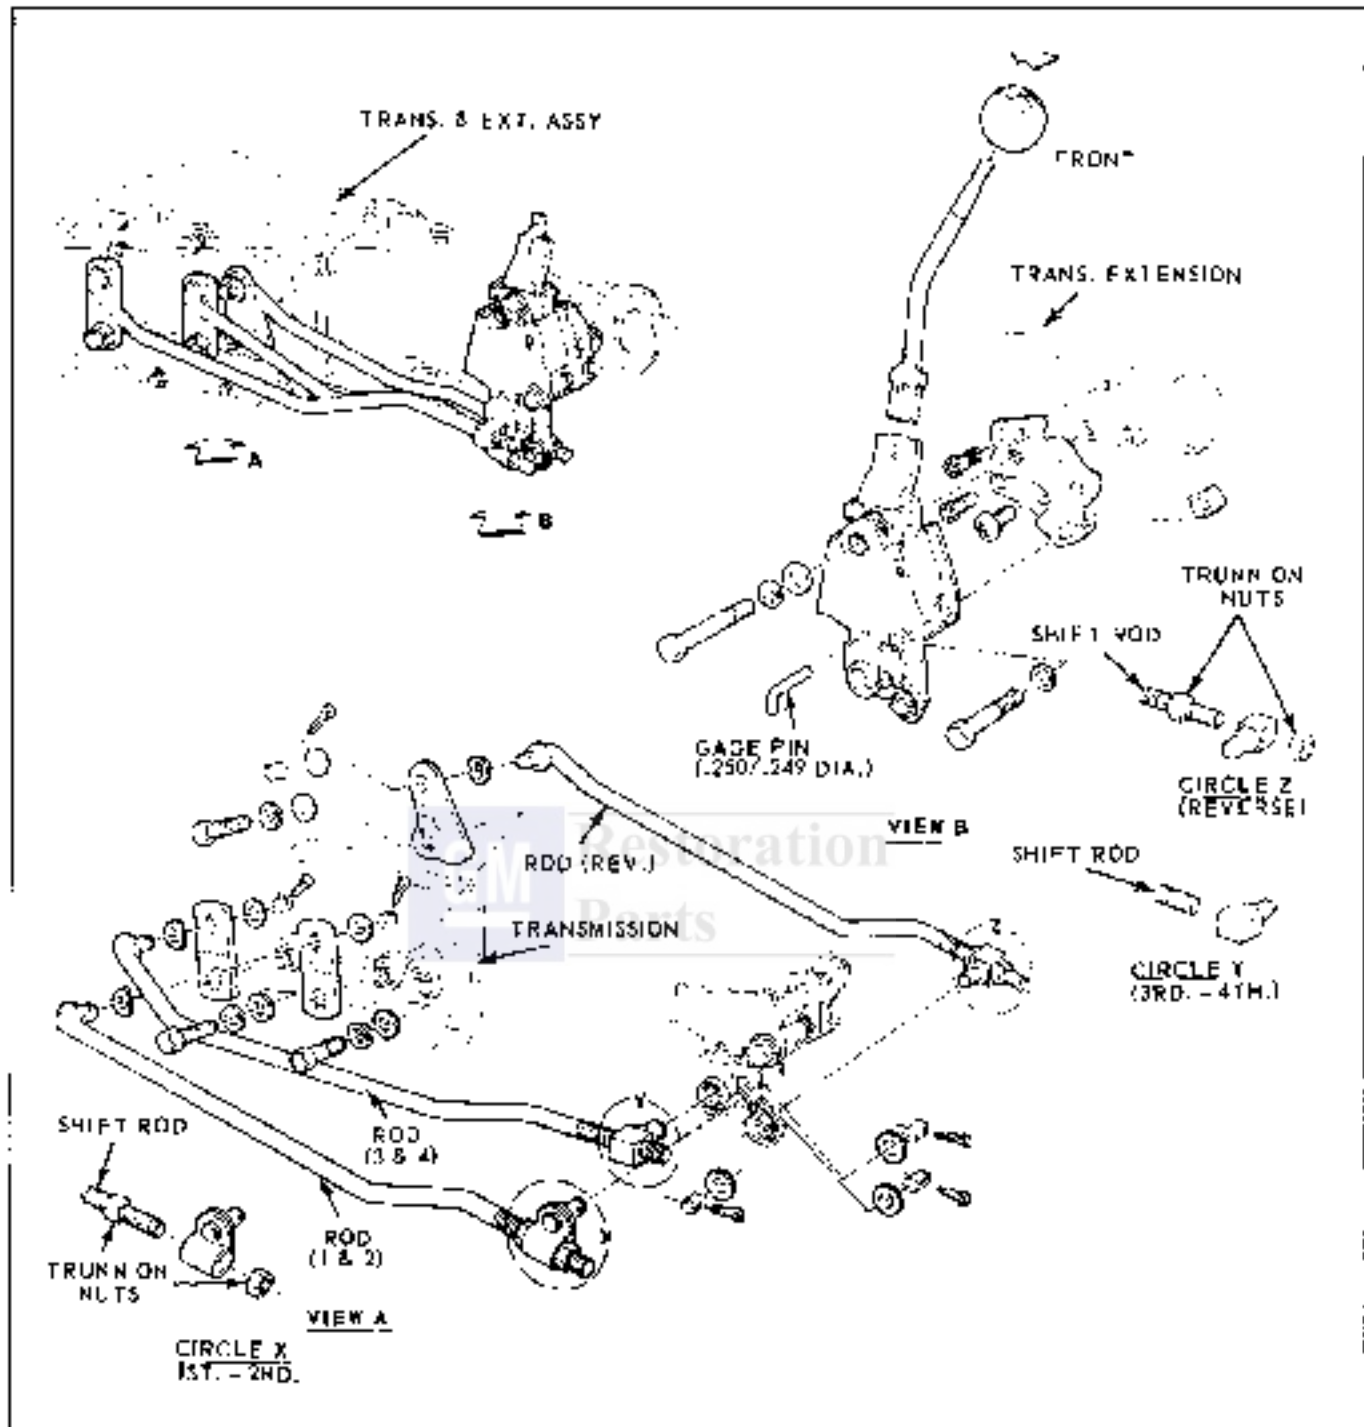

Fig. 7C-2 Firebird Shift Linkage
5. Remove both shift forks from shifter shaft assemblies. Remove all three shifter shaft assemblies. Remove reverse shifter shaft detent ball and spring. (Fig. 7C-3)